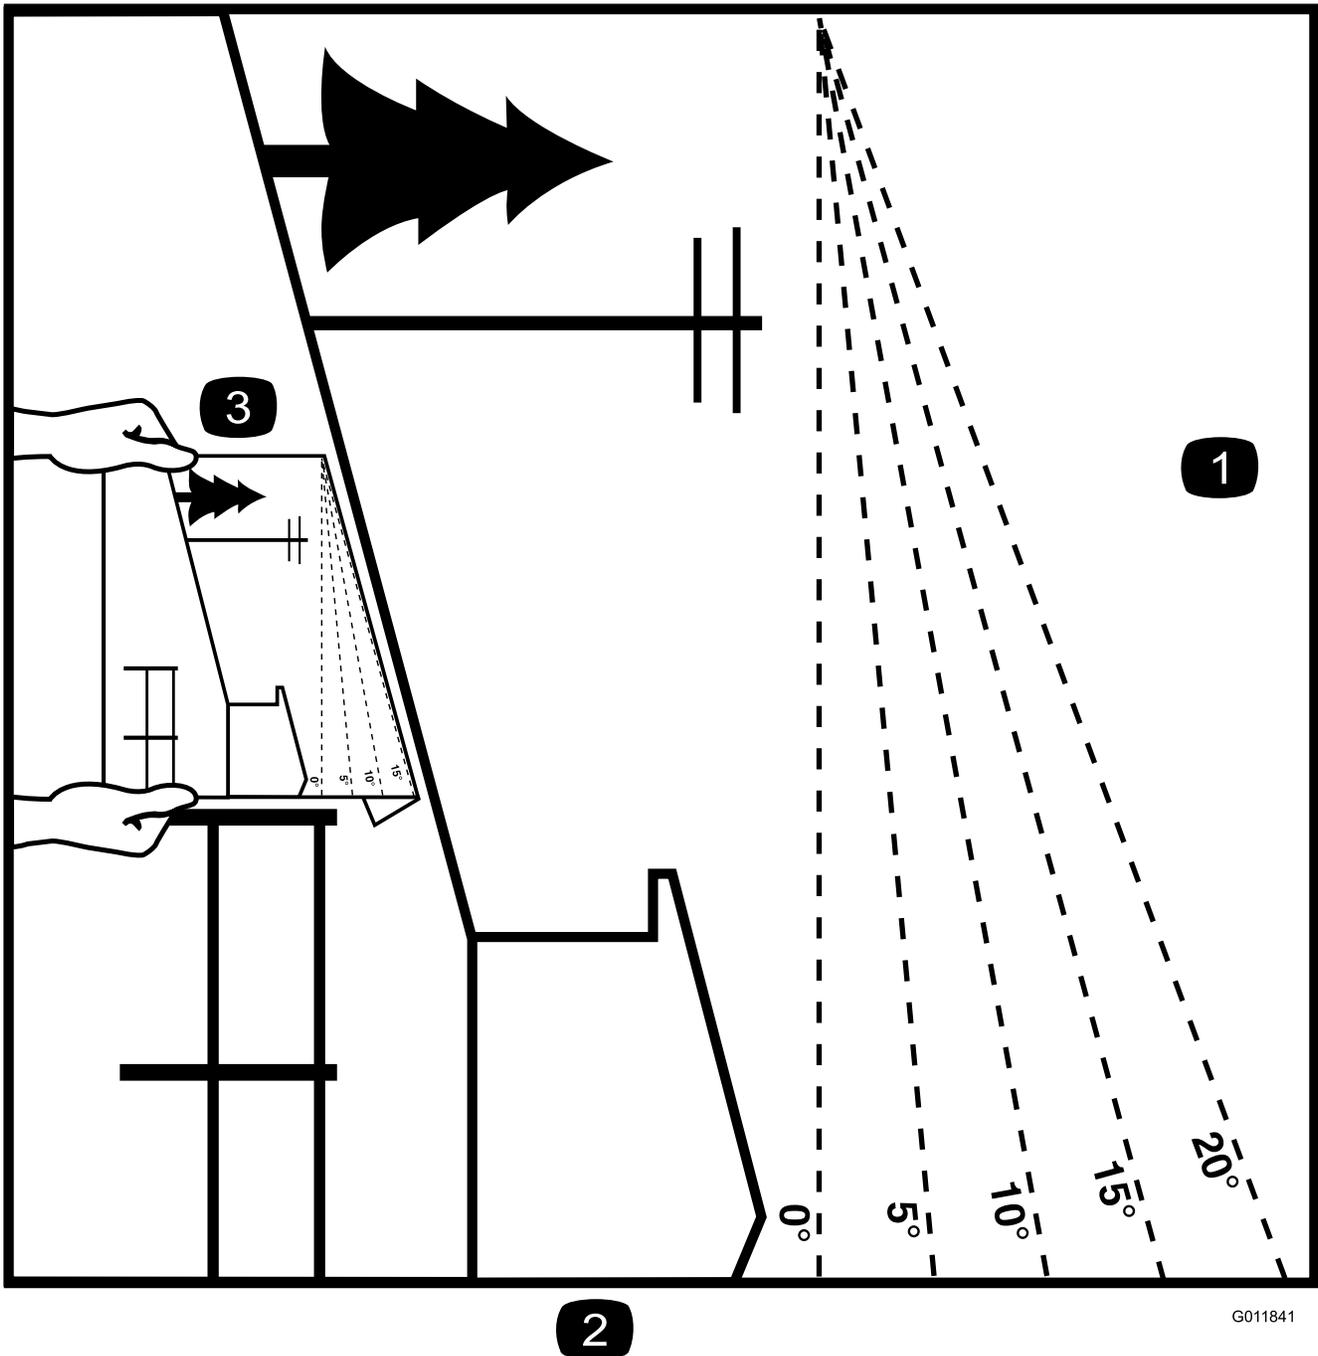

Figure 3
- Use Figure 3 to help you determine the appropriate slope angle of area to aerate